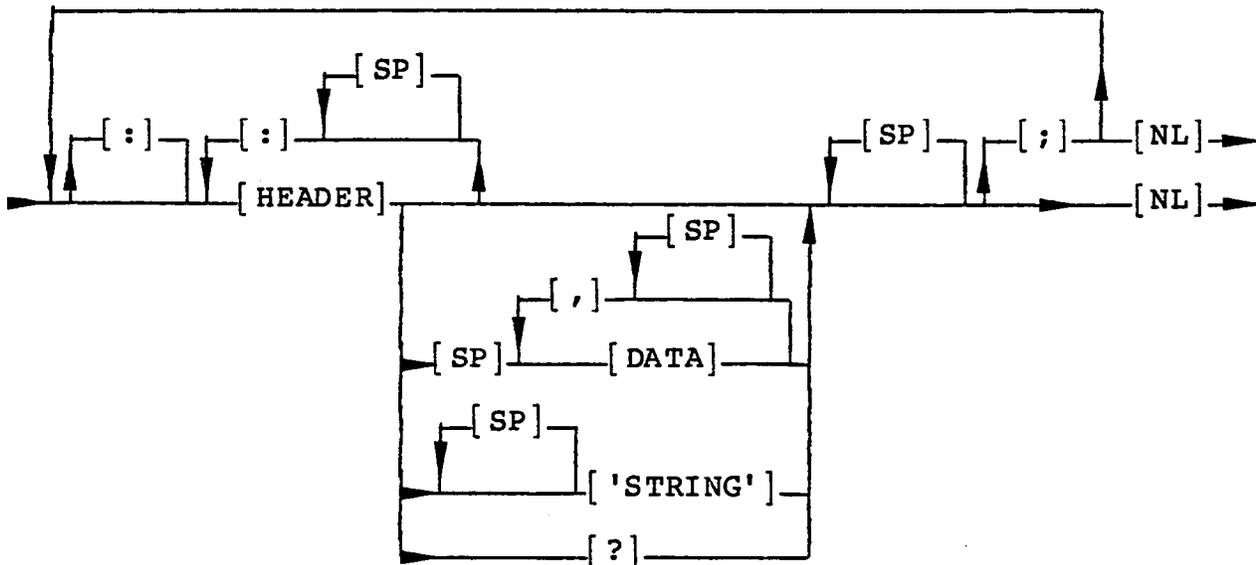
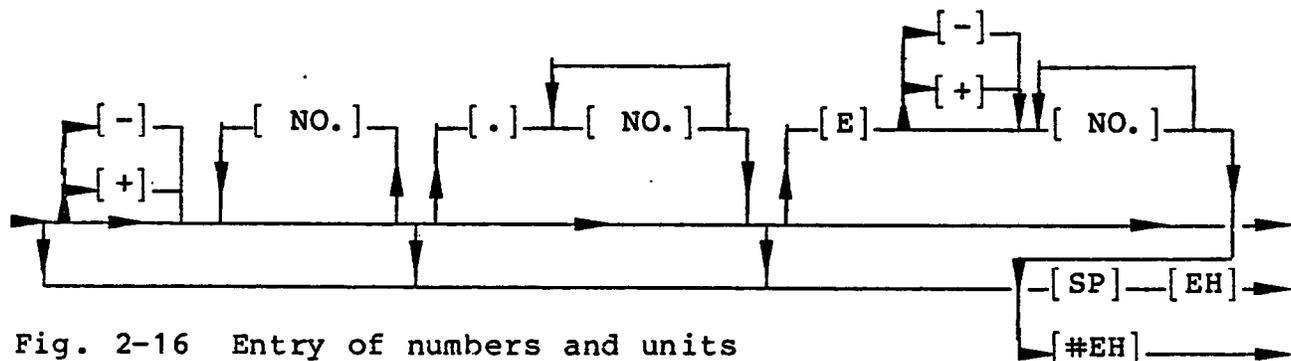

Fig. 2-15 Entry of commands
Fig. 2-16 Entry of numbers and units
The entry of commands or numbers as shown in Figs. 2-15 and 2-16 is an abstract illustration of the possible entries.
Meaning of the expressions in Fig. 2-15 and Fig. 2-16:
As can be seen from Fig. 2-15, a header or a header sequence can be terminated by a semicolon (;) with subsequent New Line (NL).
The entry of numbers, e.g. to set a frequency, corresponds to the path DATA in Fig. 2-15. This path is also shown separately in Fig. 2-16.
Example of complete numerical entry according to Fig. 2-16: